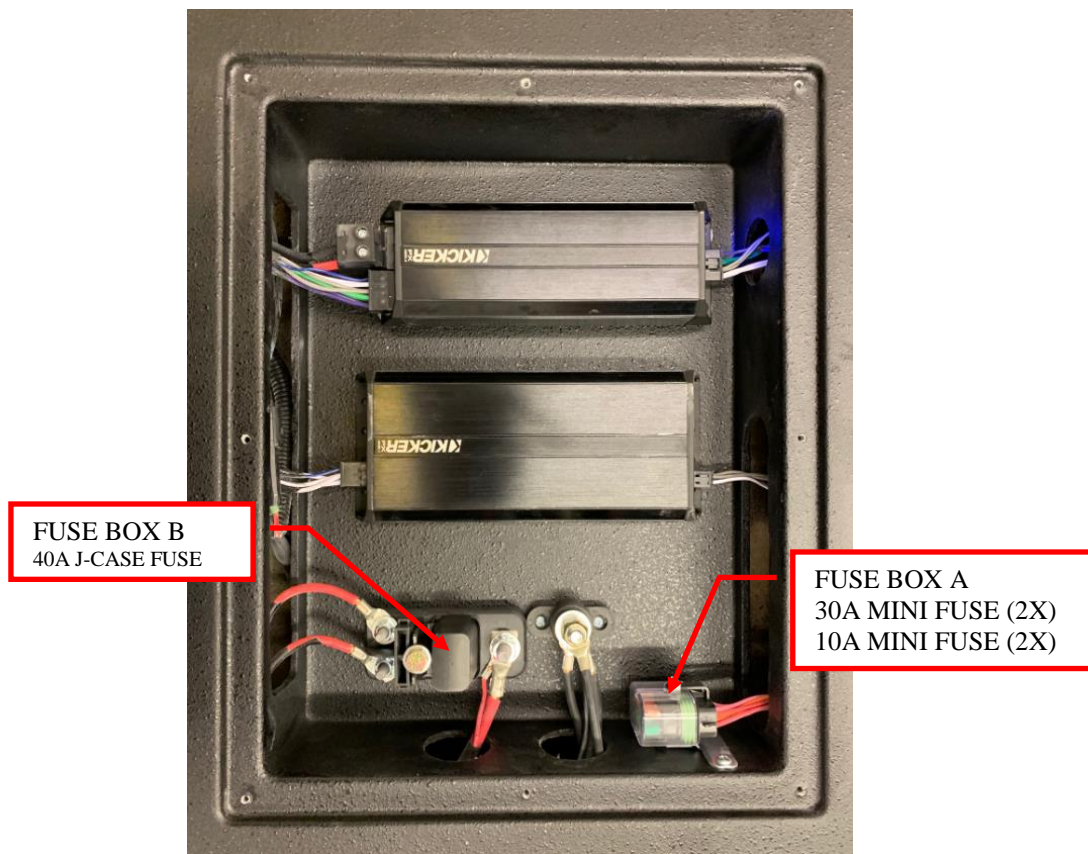

Figure 2: Fuse locations.
- Fuse Box B: Each amplifier uses a 40 amp J-Case fuse located under the black plastic cover shown in Figure 2.